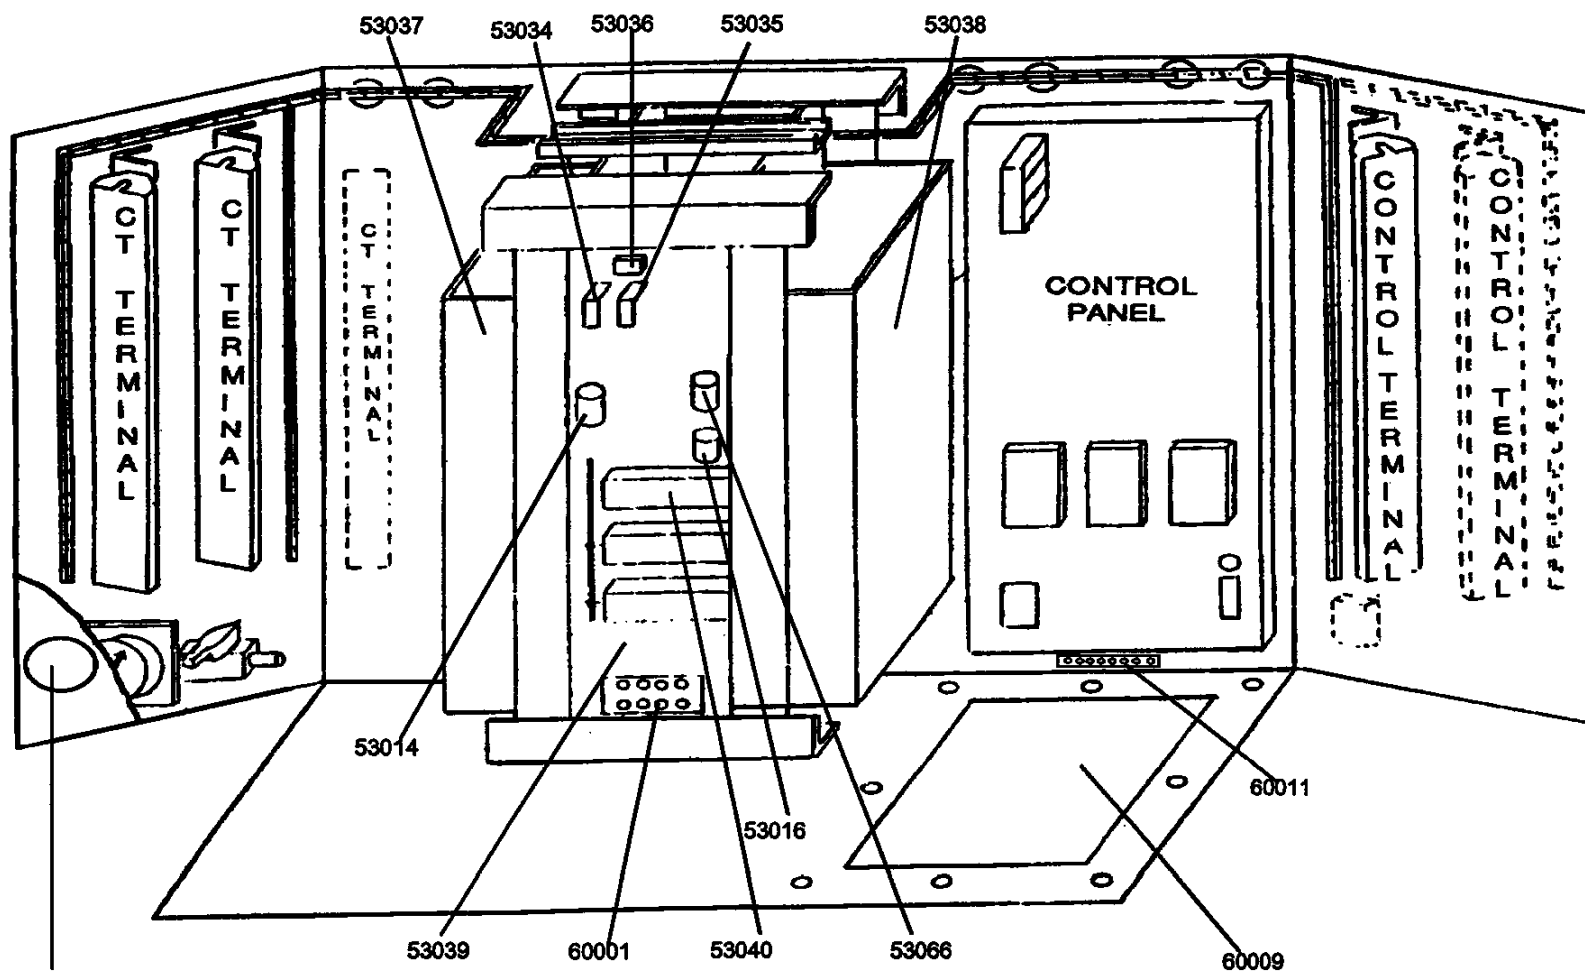

Figure 2
1. Remove the appropriate spring cover 53037 (left) or 53038 (right) (Fig. 2).
1. Remove the spring covers 53037 (left) and 53038 (right) (Fig. 2).